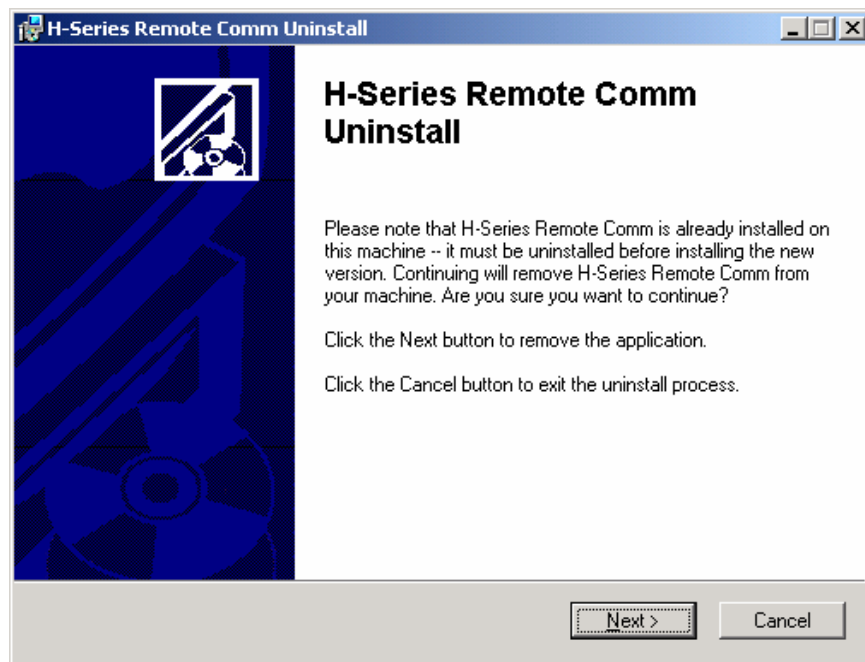

Figure 84 Uninstall Wizard
3. Run the Uninstall Wizard. (Refer to Figure 84.)